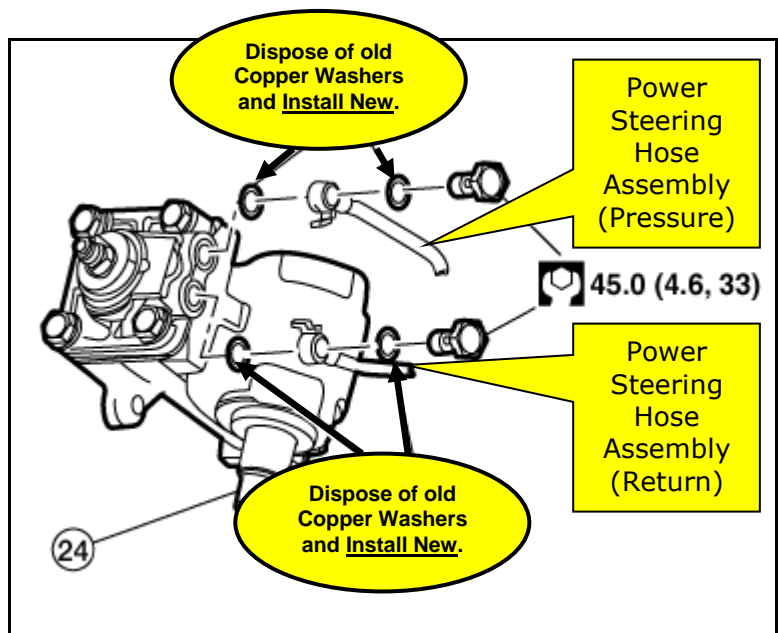

Figure 7
6. Install Power Steering Hose Assembly (Pressure & Return) connection eye bolts with four new copper sealing washers (Figure 7).